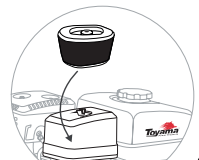

FIGURE 2
- CHECK THE CLEANING OF THE AIR FILTER; **(FIGURE 2)**